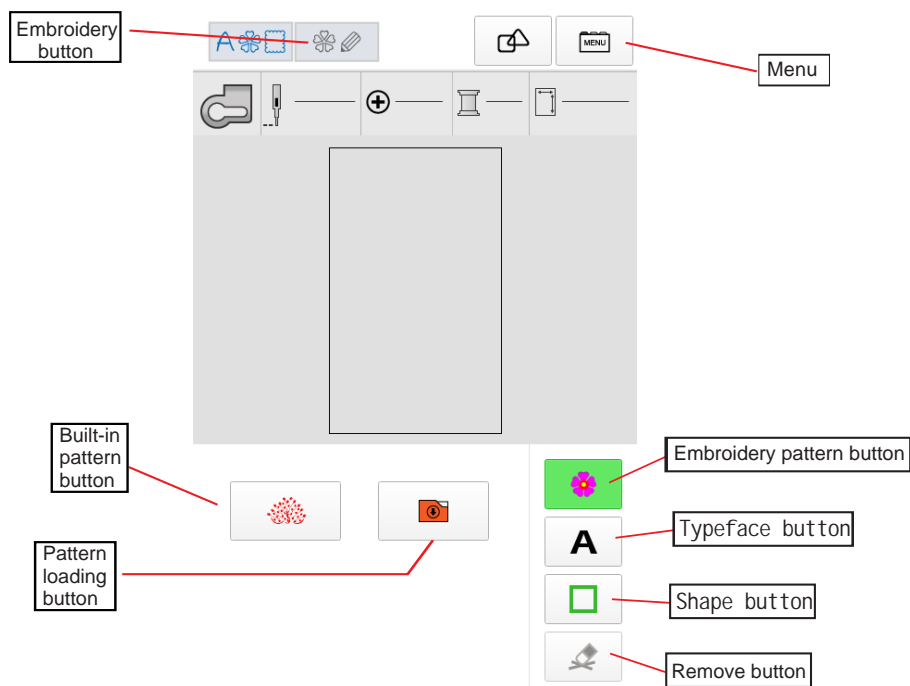

Figure 2
(3) Click the pattern selected to enter the built-in pattern selection interface in Figure 2